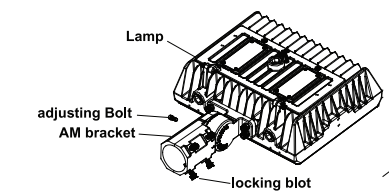

Figure 21
- Step 1: Install the bracket on the lamp. (Figure 21)